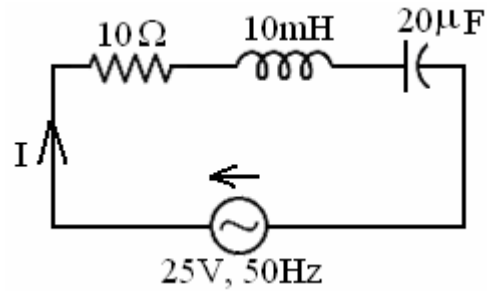

Figure 4
- b) Determine the impedance, phase and current in the below circuit (shown in Figure 4). [7+8]